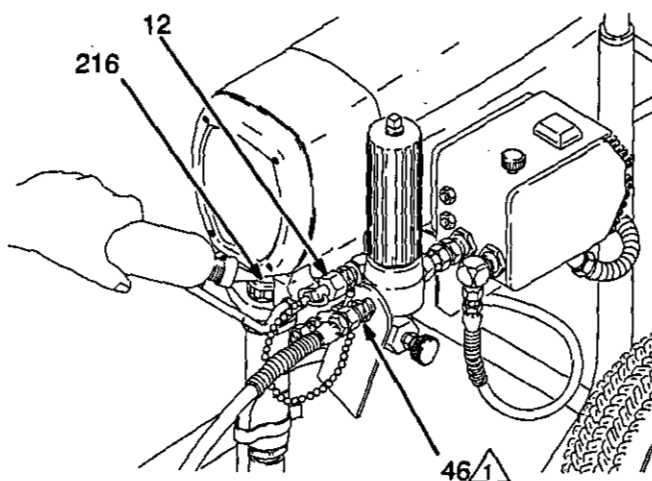
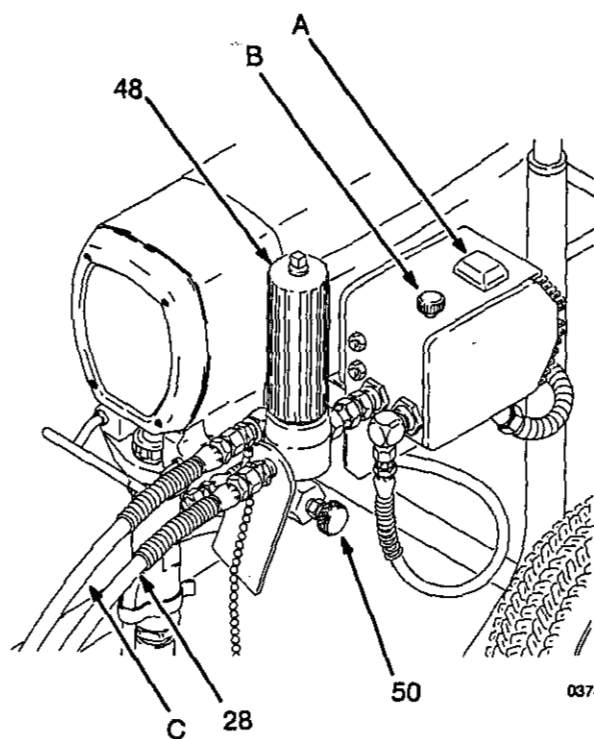

Fig. 3
Fig. 4
1. Connect hose and gun. Refer to Fig. 4.
- Two gun hookup.** Remove the cap from the 1/4 npsm(m) nipple – See Fig. 3. – and attach an accessory hose (C) and gun. See Fig. 4.
- Never install any shutoff device between the filter (48) and the main hose (28). See Fig. 3.
- Always use the main filter outlet (46) for one gun operation. Never plug this outlet. See Fig. 3.
- Fill packing nut/wet-cup (216).** See Fig. 3. Fill the packing nut/wet-cup 1/3 full with Graco Throat Seal Liquid (TSL), supplied.
7. **Plug in the sprayer**. Be sure the ON/OFF switch (A) is OFF. See Fig. 4. Then plug the cord into a grounded electrical outlet at least 6 m away from the spray area.